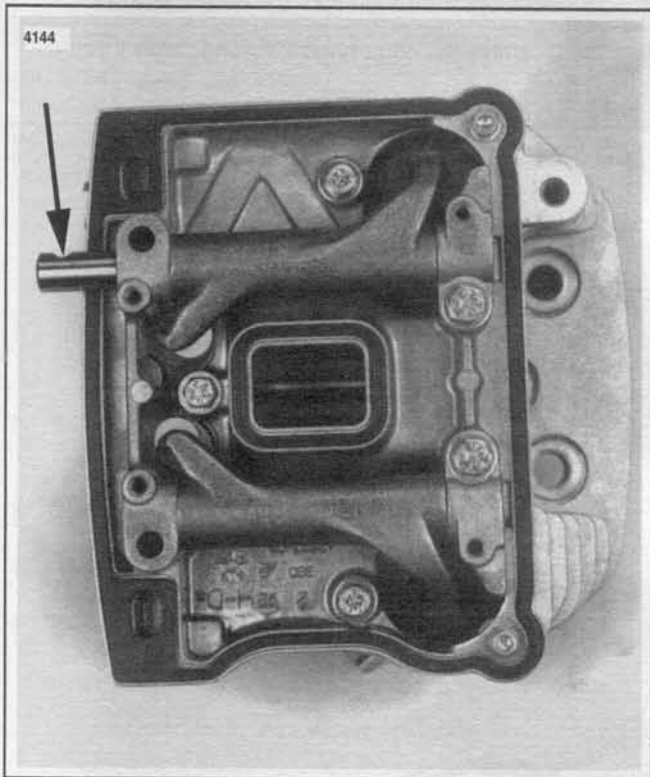

Figure 3-18. Rocker Arm Shaft Bolt Notches
4. See Figure 3-18. Install rocker arms and rocker shafts if removed. The rocker arm shafts are notched to accept the rocker arm retaining bolts. Align the notches with the bolt holes before installing the bolts.